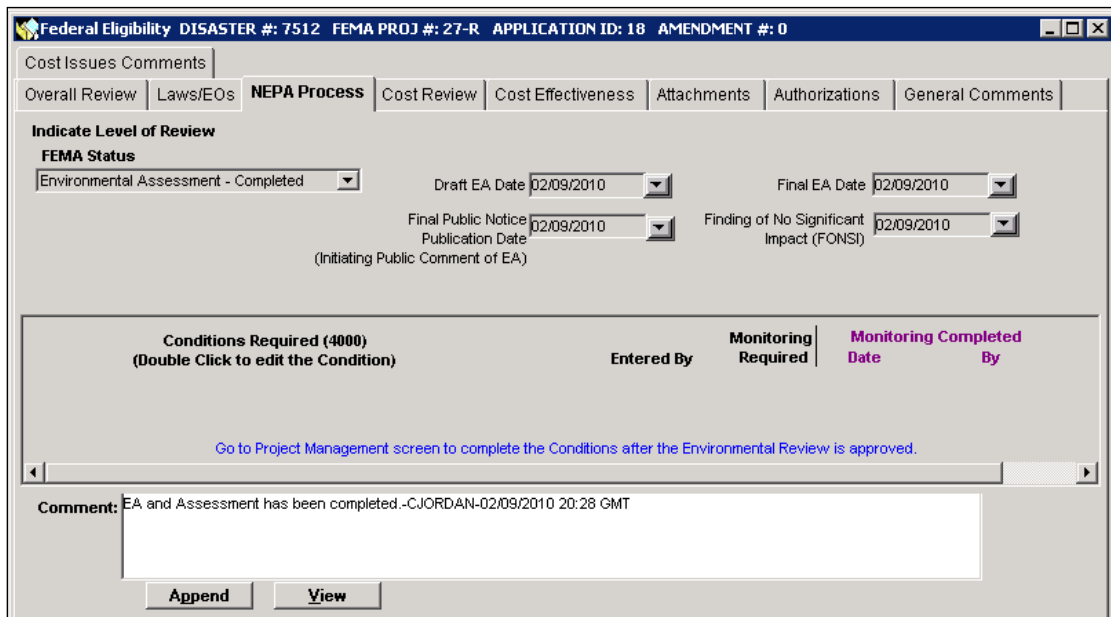

Figure 11-20: Monitoring Complete Information Added to Mitigation > Projects >Eligibility Determination >NEPA Process Tab
- g. On the MITIGATION menu, click on Projects > Eligibility Determination > View All. Highlight the desired project and select OK. Select the NEPA Process tab. Note that the system auto-filled the Monitoring Complete data fields (Figure 11-20).